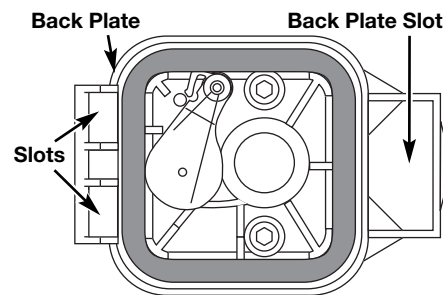

Fig. 36
6. Replace the filter (Fig. 36).
7. Reinstall the air filter cover. Position the left side of the air filter cover into the slots at the left side of the back plate (Fig. 36).